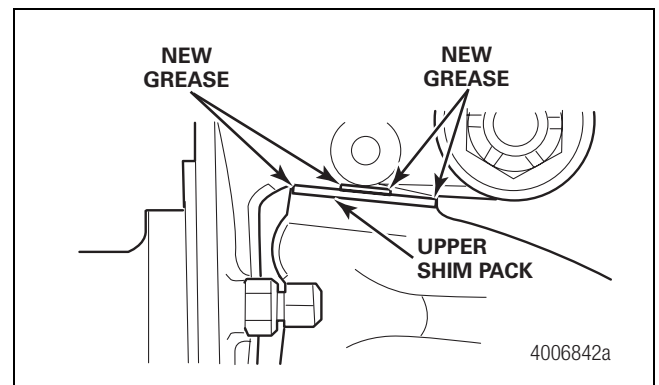

Figure 2.28
5. Apply lubricant into the top grease fitting until new grease purges from the upper shim pack. Figure 2.28.